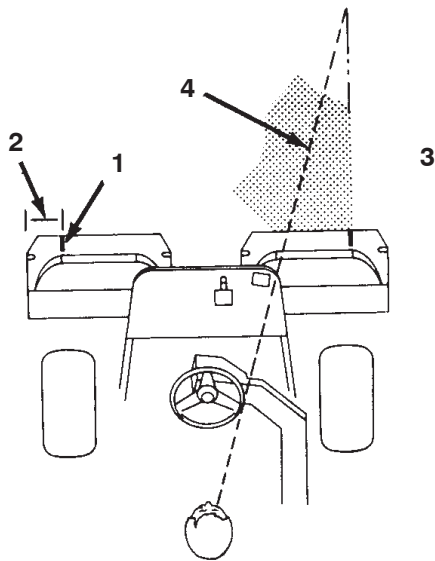

Figure 38
1. Measure in approximately 5 in. (12.7 cm) from the outer edge of each basket (Fig. 38).
2. Either place a strip of white tape or paint a line onto each basket paralleling the outer edge of each basket (Fig. 38).